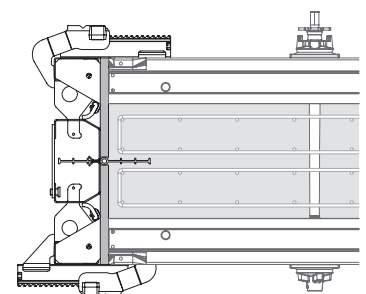

Fig. D9.09
- Filler plates supplied by the contractor (**96**) (Fig. D9.09)